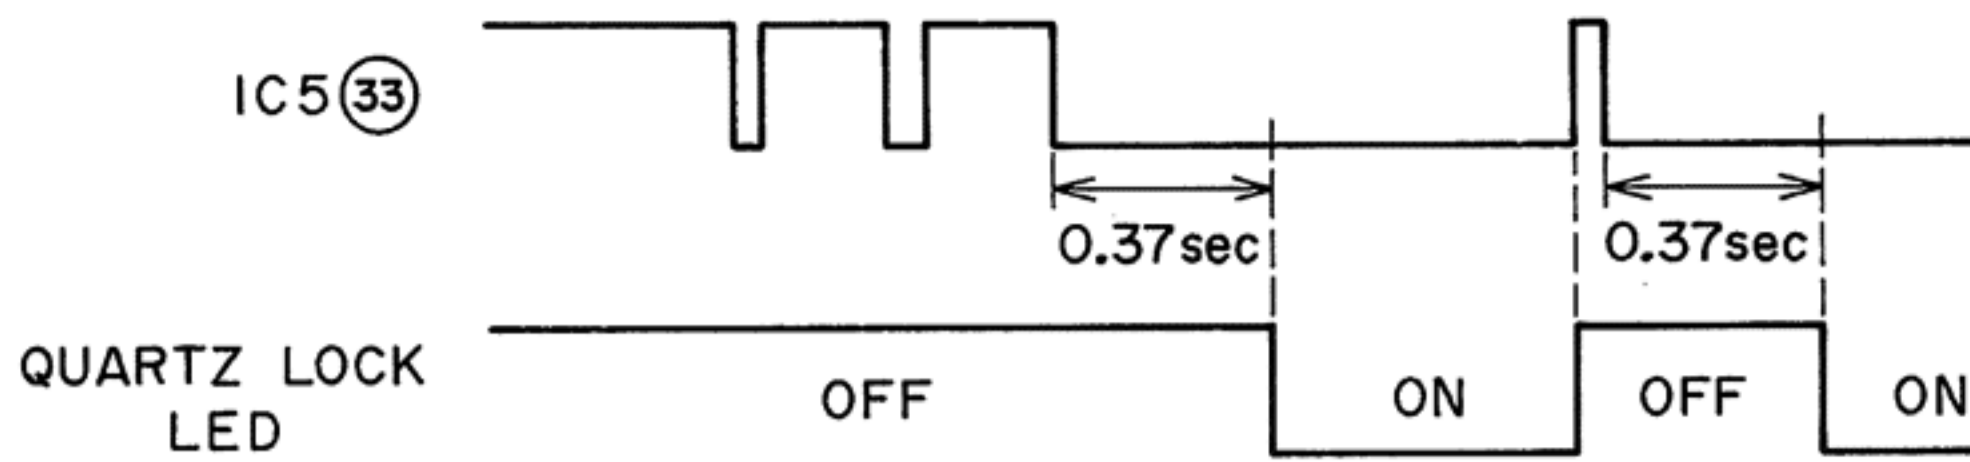

Fig. 17
2) When IC5 33 is "L" for 0.37 sec after the speed button LED is lit, IC5 19 becomes "L" and the quartz lock LED is lit (Refer to Fig. 17).
3) The output of photo transistor changes depending on the shape of shutter slit and as this output changes, the position of tone arm is detected (Refer to Fig. 17).